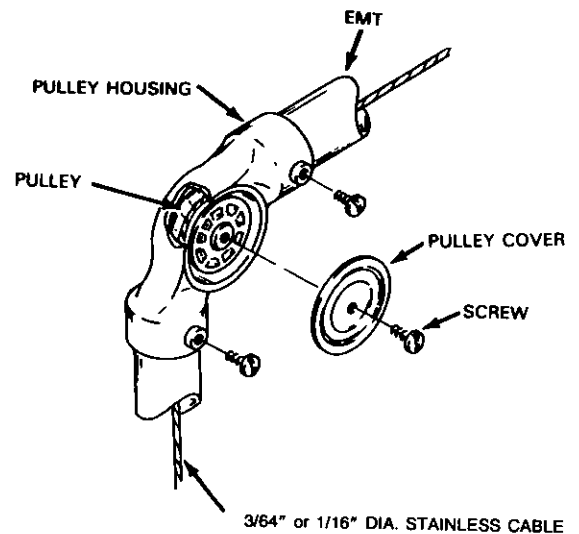

Figure 1-11. Corner Pulley, Pyro Chem
2. Corner Pulley (Model MCP-1) — The pulley is used anywhere a change in cable direction is required. The pulley is equipped with set screw fittings for connection to $\frac{1}{2}$ inch EMT. (See Figure 1-11).